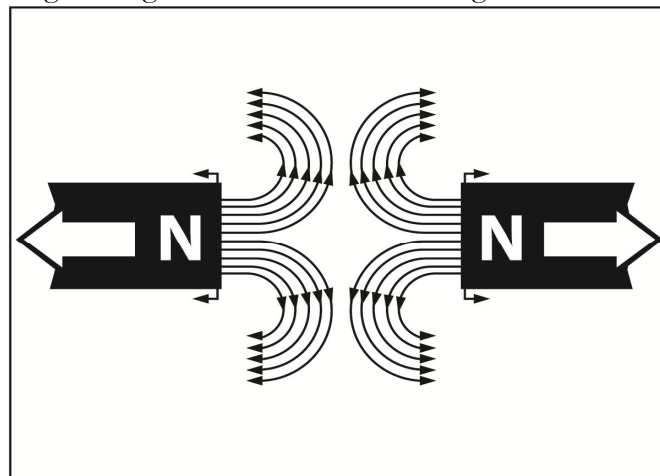

Fig. 6.6
- Flux lines can't cross each other. This is the reason that like poles repel. Lines, which have the same polarity, can neither connect nor cross. When one field intrudes into another, the lines repel and magnets push apart or away from each other. There's an example of this in Figure 6.6.